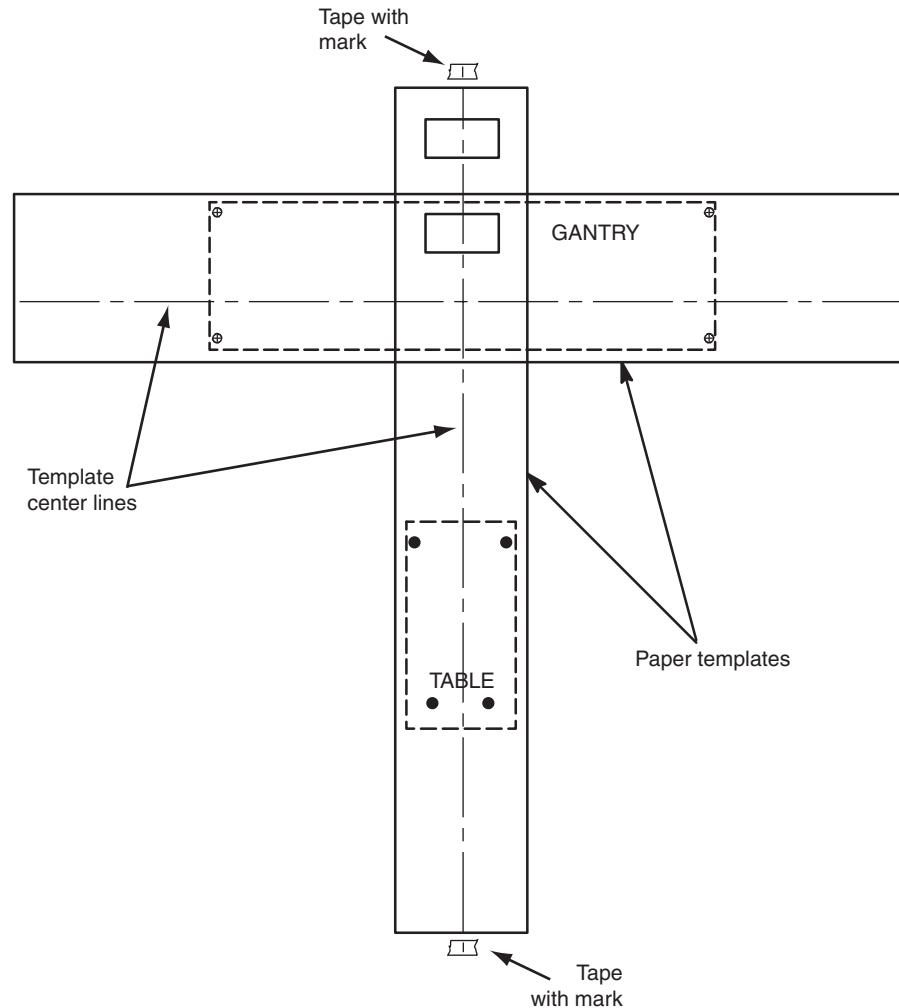

Figure 1-4 Center Line with Marks
- 9.) Use a center punch to mark hole centers for each of the eight (8) leveling pad/anchor locations per Figure 1-4. Before moving on to the next step, see Step 11 and its note for an alternative method.